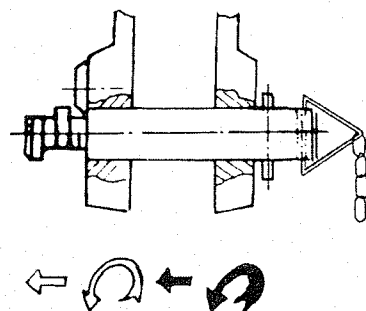

Fig2. Turn and push the fixed axis twice and let it enter the second tunnel
2.Anchor: Fixed axis is to be used to anchor the rope round the hoister.Connect the wire ropeor the hanger with the fixed rope and tie the otherend to the load,masts , etc. There is a relaxation-proofing tunnel on the fixed axix. When the fixed axis is inserted the hoister case ,is must be turned twice to the second tunnel till it is clamped tightly (Fig.2).